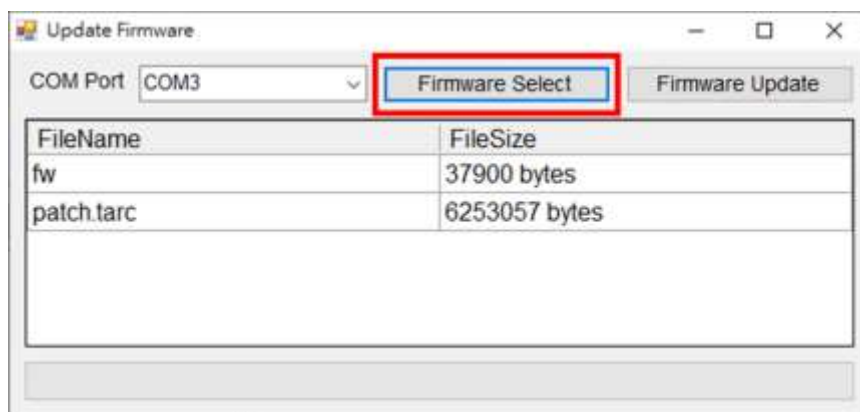

Figure 11.2.6
5. Select the update directly, as shown in Figure 11.2.6.